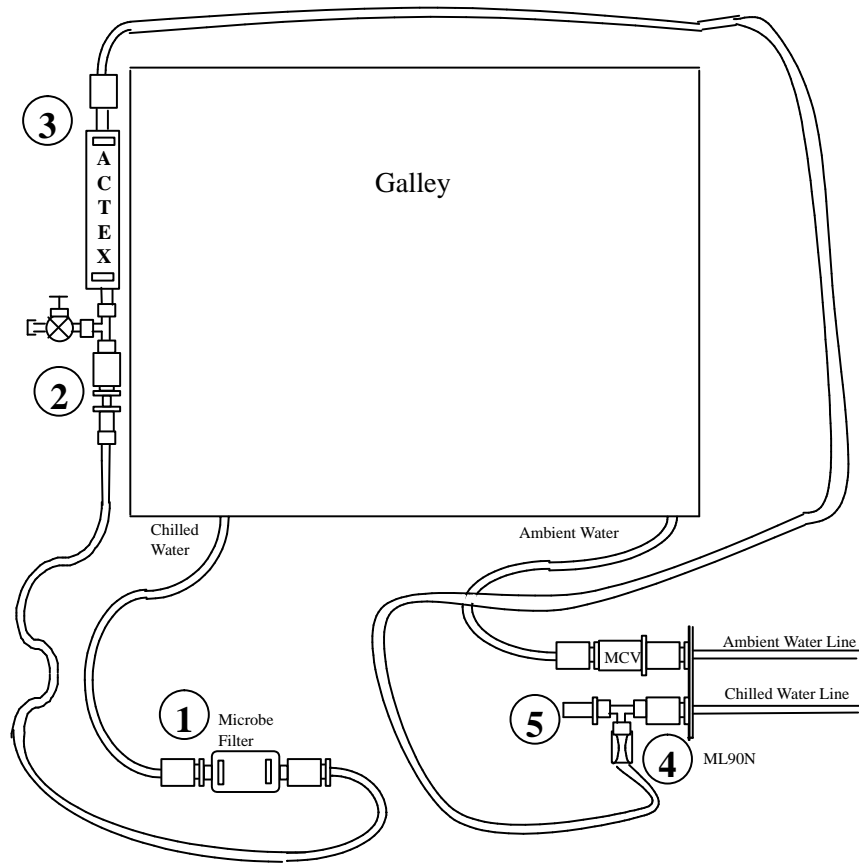

Figure 6-1.- GIRA configuration (connections and routing).
2. Install MCV on Ambient (uninsulated) supply line by connecting MCV to Ambient QD at QD bracket and connecting Galley Ambient supply hose to other end of MCV (See figure 6-1)
7. Secure ACTEX assembly as reqd (Reference figure 6-1). Ensure access to locker MF140